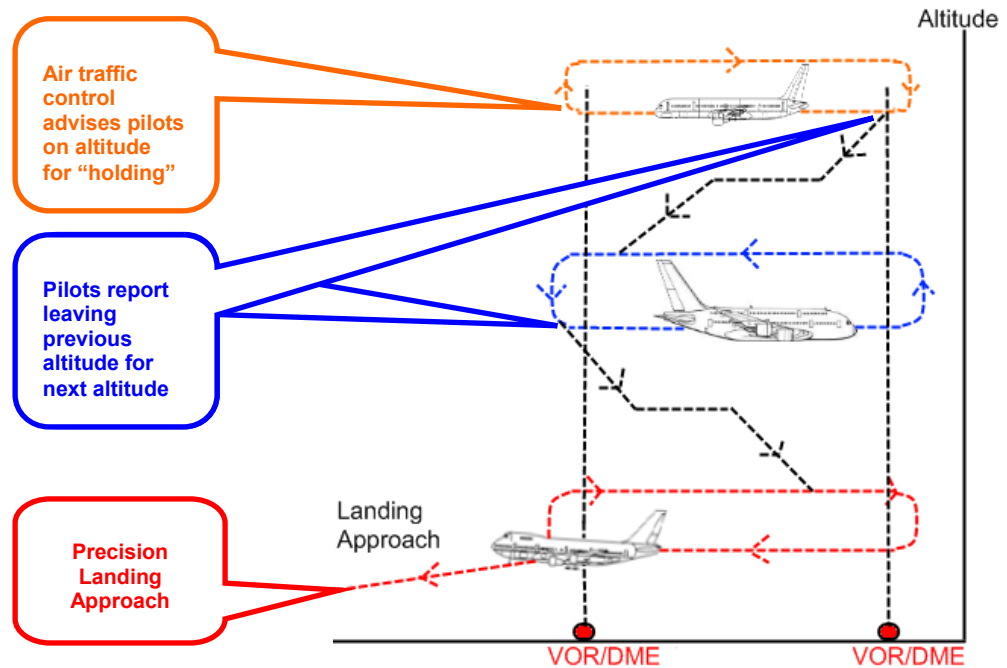

Figure 4: Transitioning from "holding stack" to landing approach navigation
Enroute navigation includes the use of GPS, RADAR, and VHF with air traffic control (ATC), distance measurement equipment (DME), and automatic direction finder (ADF). For example, when using the GPS and ADF, pilots will know the aircraft position and will request landing clearance from ATC. For heavy air traffic, ATC sequences the aircraft arrivals, with pilots executing a "holding stack" – usually based on a "racetrack" pattern (refer to Figure 4). VOR/DME stations serve as waypoints before the final descent and landing approach, guided by the distance from the runway as provided by marker beacons (MB) and the instrument landing system (ILS).